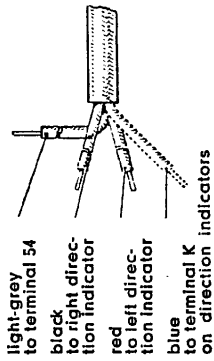

Fig. 41 Connection of leads
10. Draw in cable and connect (see Fig. 41).